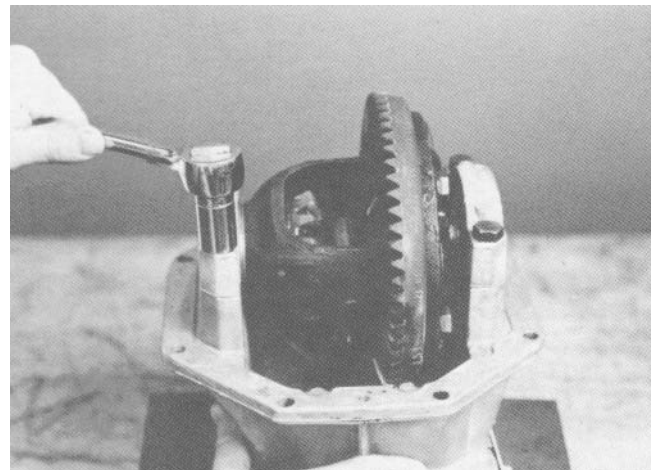

Figure 11
3. Remove the four bearing cap screws and remove the caps. Place the caps in a safe place to avoid damaging their machined surfaces (Fig. 11).